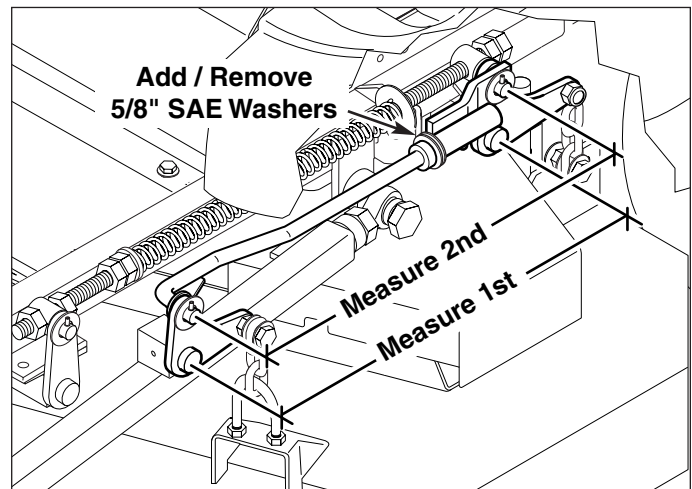

Figure 33. Lift Rod Adjustment
6. See Figure 33. Measure the distance between the rear lift pivots and the suspension-mounted lift pivots. Add or remove 5/8" SAE washers from in between the deck lift rod and the offset link until measurements are equal.